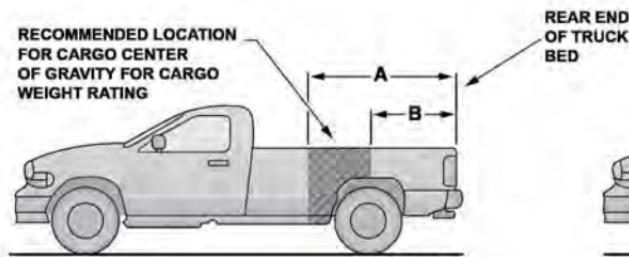
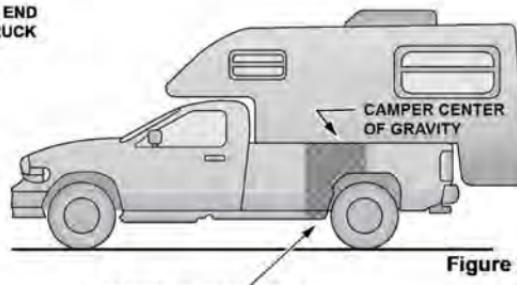

Figure 1
Figure 2
Figure 1 illustrates the dimensions describing the forward and rearward limits of the zone in which the Center of Gravity (CG) of a slide-in camper must be located, to provide satisfactory vehicle handling and to prevent overload of the front and rear axles. Figure 2 illustrates a proper match between truck and camper.